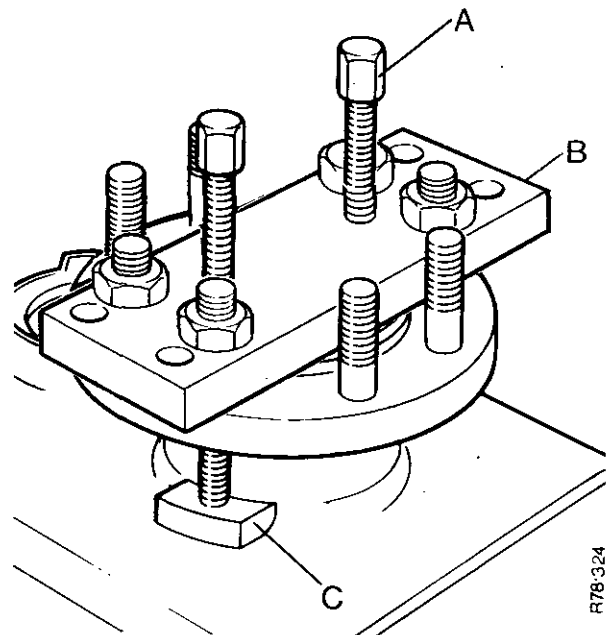

FIGURE 108. REMOVAL OF FINAL DRIVE SHAFT
7. For later tractors make the special plate as shown in Figure 11. Install the tool as shown in Figure 108. Tighten each bolt the same amount until the shaft is clear of the casing.